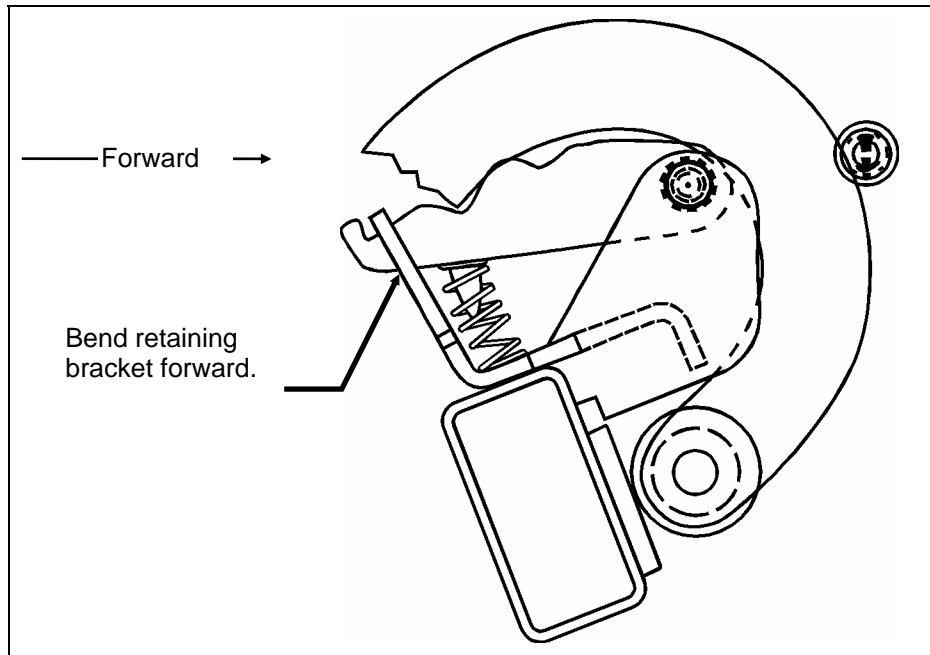

FIGURE 7
10. Bend spring retaining bracket as shown in Figure 7.